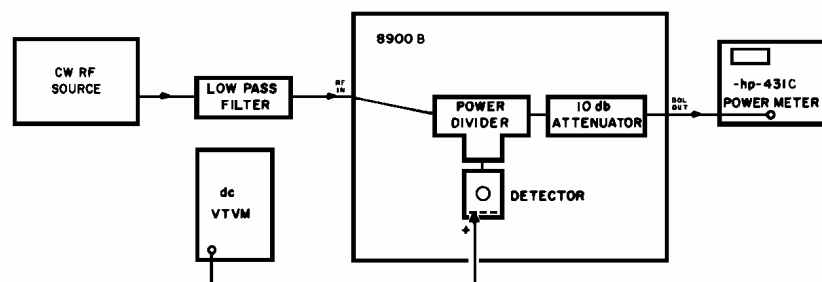

Figure 5-4. Detector Diode Check Setup
c. Connect equipment as shown in Figure 5-4.